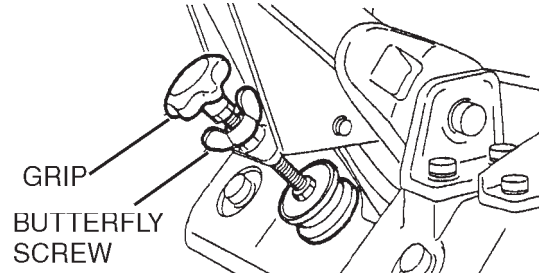

Figure 14. Handle Adjustment
1. Loosen the butterfly screw (Figure 14).